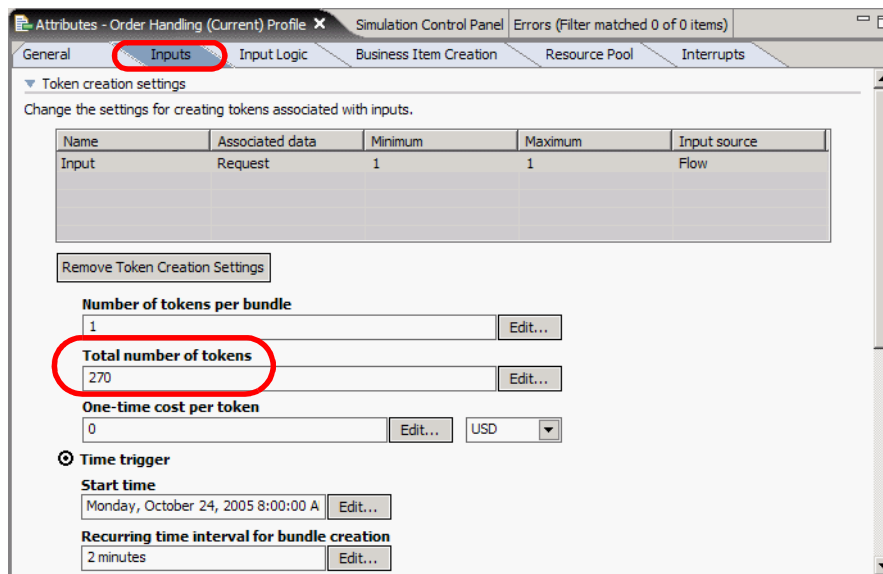

Figure 5-16 Simulation profile: Inputs
- ▶ Populate the *Inputs* tab with the number of tokens, the start time, and interval (Figure 5-16):